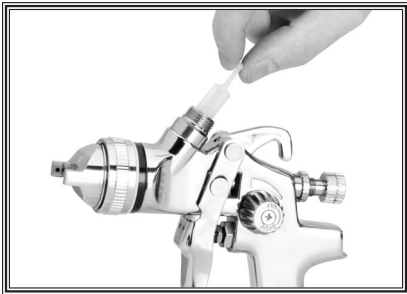

Figure 2. Installing filter.
1. Insert the filter into the gun body with the knob pointing outward (see Figure 2).